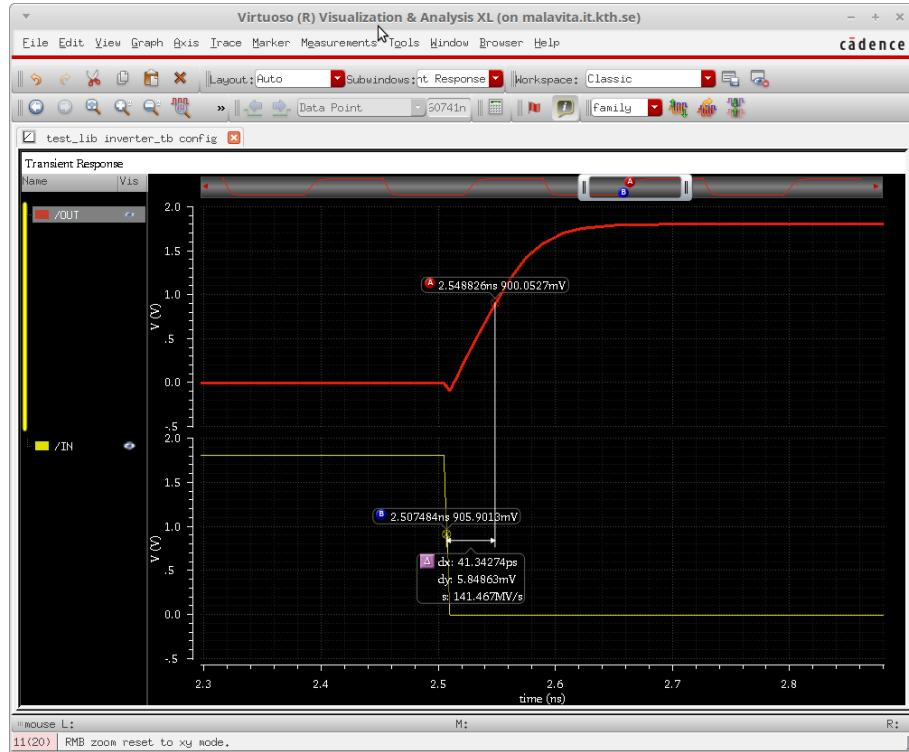

Figure 32: Placing markers in a waveform
- Some times it's really useful to use markers to calculate for example the distance between two points on the graph. To place them press 'a' and you will notice that a marker appears on the graph. Drag and drop it to the point you want. Press 'b'. A second marker appears at a random point on the plot. Drag and drop it to the desired position. The vertical and horizontal distance between the two markers, dy and dx is automatically calculated (Fig. 32).